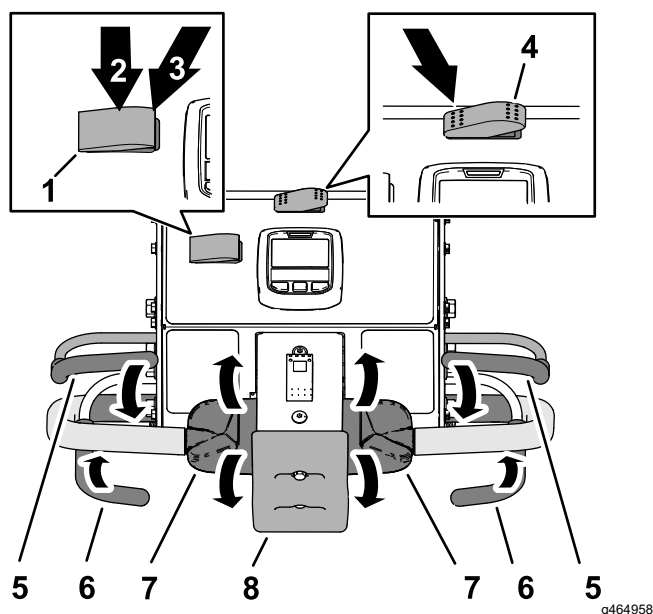

Figure 82
1. Press the transport/aerate switch to the AERATE position (Figure 82).